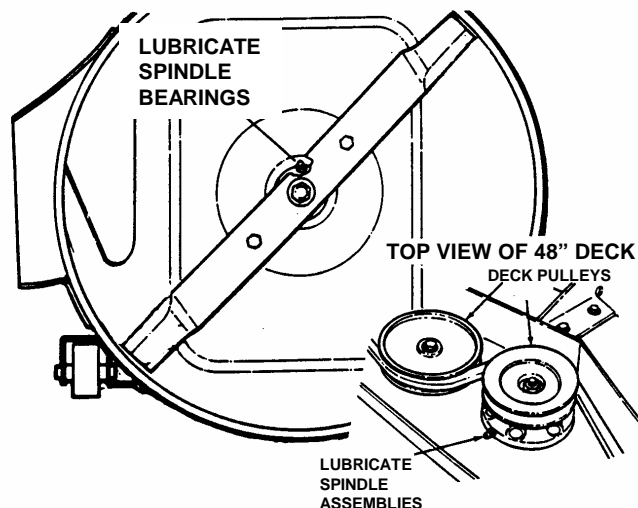

FIGURE 3.4
- Lubricate spindle bearings with three shots of general purpose grease from grease gun. See Figure 3.4.